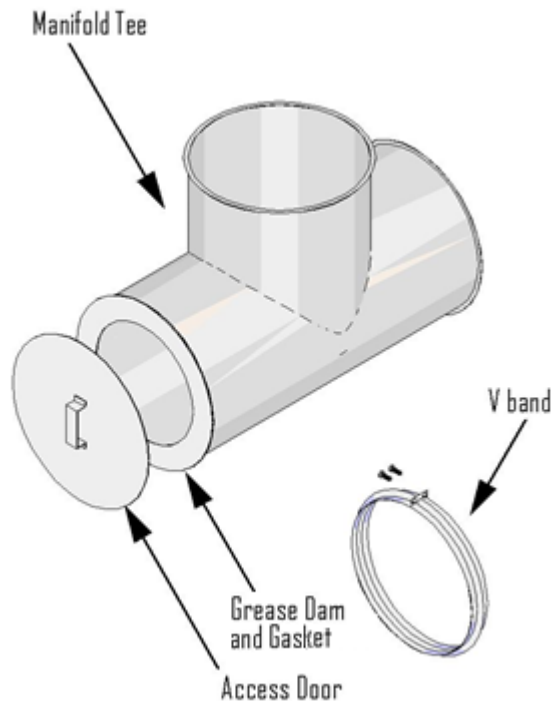

Figure 2. Access Door Assembly
- B. ACCESS DOOR – When required, use the duct manufacturer's manifold tee and access door (tee cap) assembly (see Figure 2). Apply a 1/4 in. continuous bead of sealant (Item 2A) to the flange